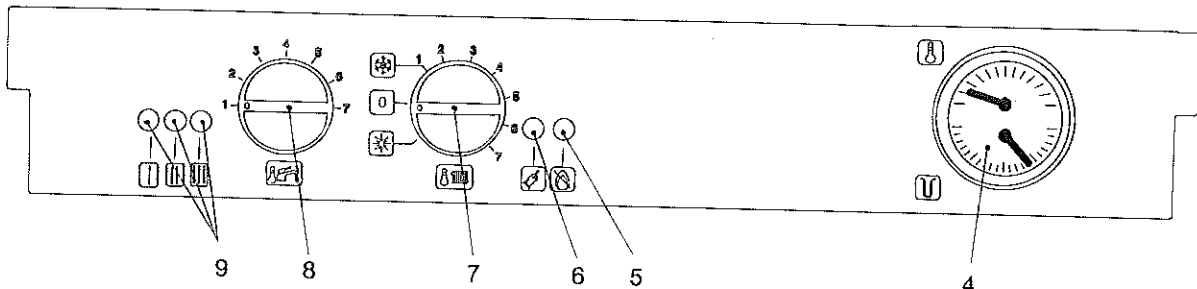
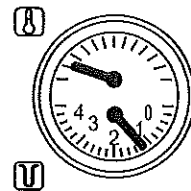

Figure 3.2
Figure 5.1
Three lights (8 in Fig. 3.2) give detailed indication regarding the operation of the boiler. The following table gives the relationship between each of the possible light combinations and their meaning.
- Ensure that the Central Heating circuit is regularly filled with water checking that the pressure indicated on the temperature and pressure gauge (4 on figure 3.2) is not lower than 1 bar (14.5 psi) as shown on figure 5.1.
- The temperature and pressure gauge (Fig. 5.1 on page 9) will allow you to check that the set temperature is obtained.
- You should check that the pressure on the temperature and pressure gauge (Fig. 5.1 on page 9) is not below the correct setting.
If the pressure on the temperature and pressure gauge (Figure 5.1 on page 9) has gone down: